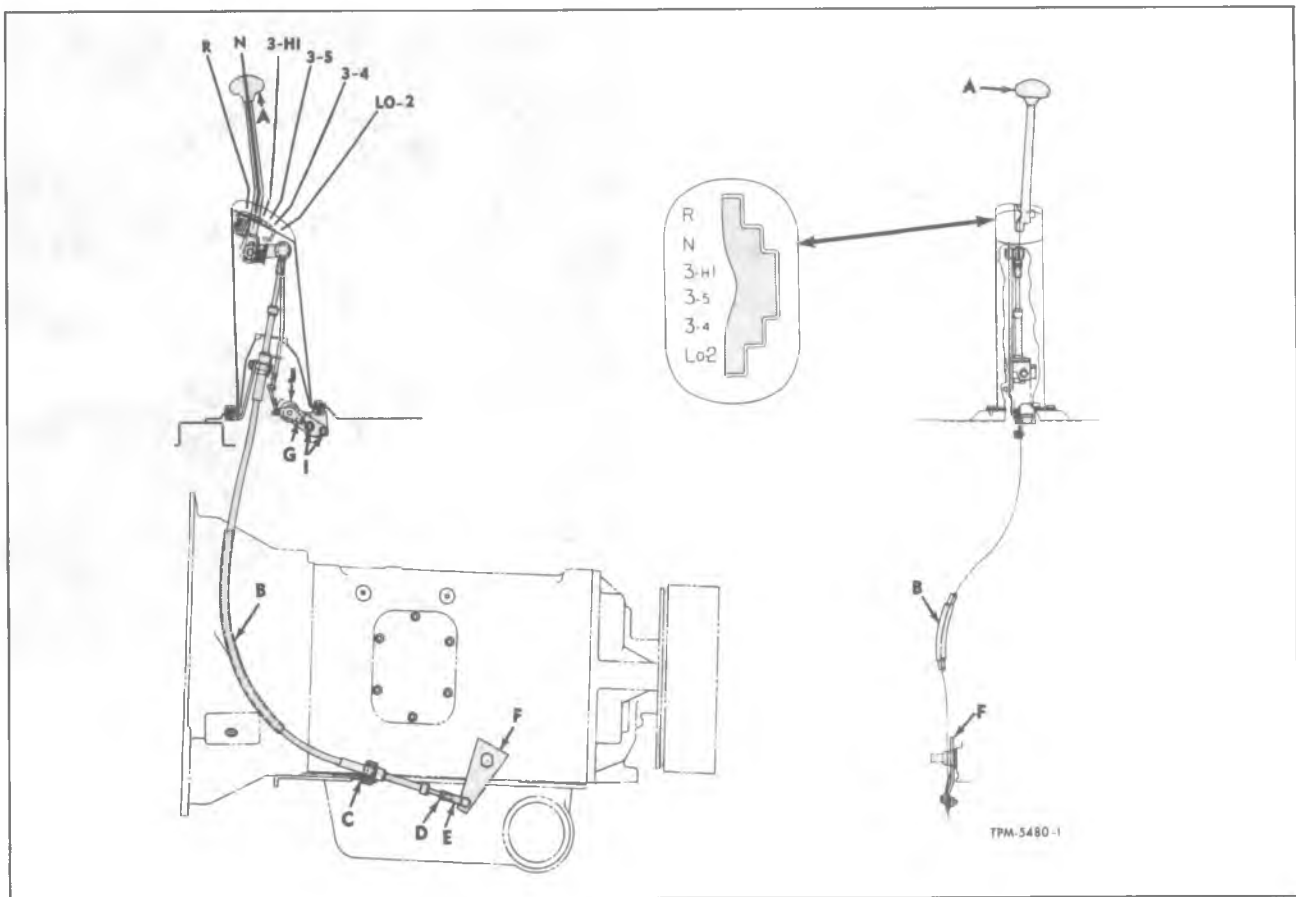

Figure 15—Manual Range Selector Linkage (ME60)
2. To facilitate installation of TV Linkage Adjustment Gauge (J-23739), disconnect manual selector linkage at transmission by removing clevis pin from shift lever (F, fig. 15).
11. Remove gauge from transmission and connect clevis (E, fig. 15) to shift lever (F).
(Refer to Figs. 15 and 16)
-ME60 (Refer to Fig. 15)
1. Back nut (D) away from clevis (E) and remove cotter pin and clevis pin from outer shifter lever (F).
2. Place transmission selector lever (A) in the "LO-2" position and while holding transmission outer shift lever in "LO-2" position (counterclockwise to rearmost position). Adjust clevis (E) to proper length to insert clevis pin freely through holes in clevis (E) and shifter lever (F).
3. Install new cotter pin in clevis pin and tighten nut (D) firmly against clevis (E). Check to see that bolts holding cable bracket (C) are tight to cable cover and housing.
#### Adjustment Procedure - ME60 (Refer to Fig. 15)